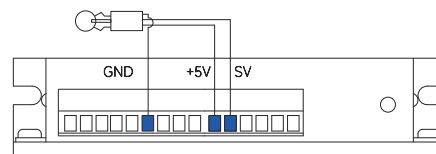

Figure2
- External potentiometer: Use a potentiometer with a resistance value of 10K . ---Figure 2.